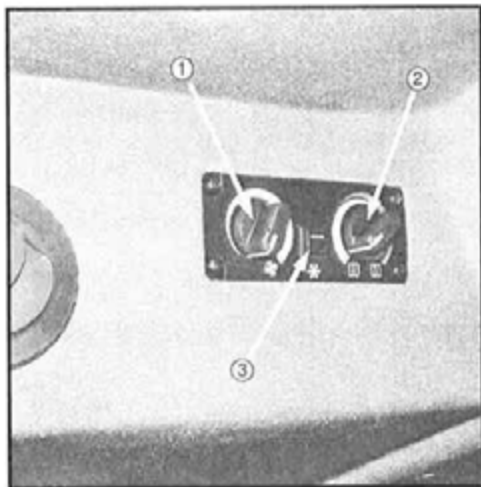

FIG 5.79
ADJUSTING FAN BLOWER SPEED - Fan blower speed is controlled by the left rotary dial on the cab climate control panel (fig. 5.79, item 1). The fan blower speed is a continuously variable adjustment. To increase fan speed, rotate fan blower dial clockwise. To reduce fan speed, rotate fan blower dial counterclockwise. To shut fan blower off, rotate fan blower dial all the way counterclockwise.
ADJUSTING TEMPERATURE SETTING - Forced air temperature adjustments are controlled by the right rotary dial on the cab climate control panel (fig. 5.79, item 2). Temperature control is a continuously variable adjustment. To increase forced air temperature, rotate temperature dial clockwise. To decrease forced air temperature, rotate temperature dial counterclockwise.
OPERATING AIR CONDITIONING - To activate the air conditioner, depress the air conditioning switch (fig. 5.79, item 3). Adjust fan speed and temperature accordingly.